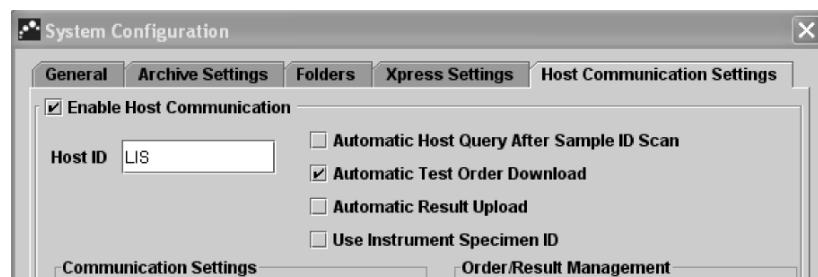

Figure 6-6. Automatic Test Order Download selected
1. In the **Host Communication Settings** tab, click on the **Automatic Test Order Download** checkbox to select and enable this function (Figure 6-6).